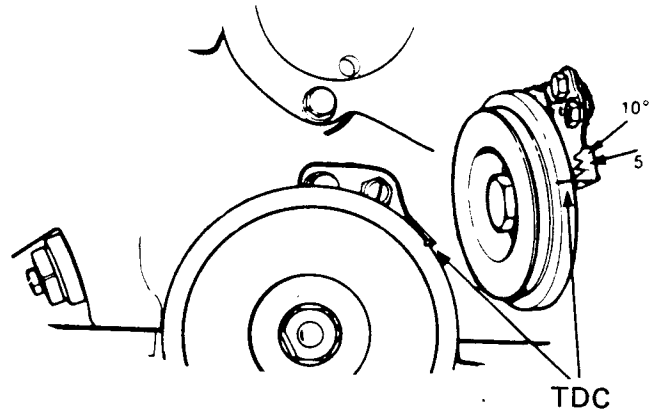

Fig B4.98
(5) Refer to Fig B4.98. Loosen the harmonic balancer bolt (1) using special tool 18G98A.
(6) Set the crankshaft pulley timing mark to the TDC position with No 1 cylinder firing.